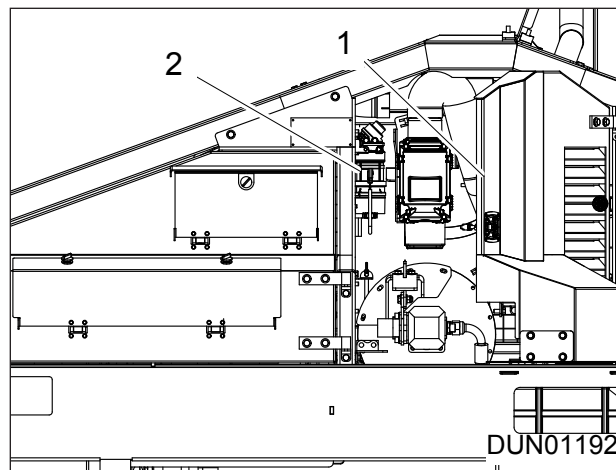

Figure 9.30 - Engine Fuel Filters
1. Pump Main Filter (ref. item 1), Figure 9.30 & 9.31.
2. Inlet Fitting (ref item 2), Figure 9.30.